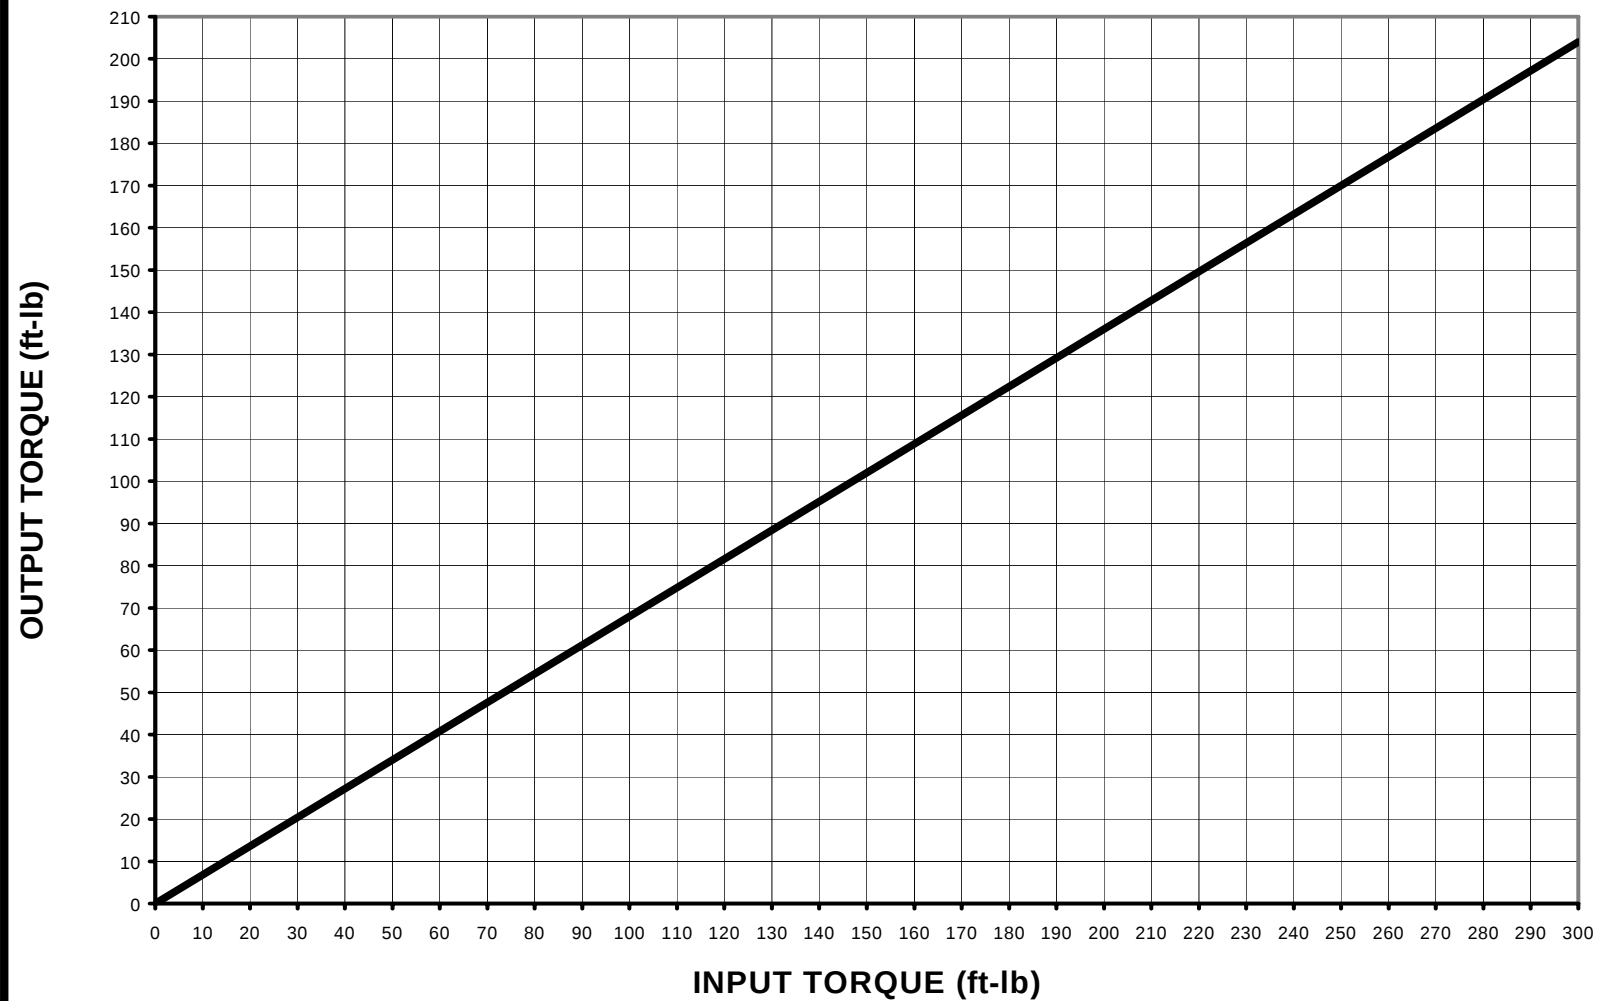

Figure 2.6
- actuator torque output versus override input indicated in figure 2.6